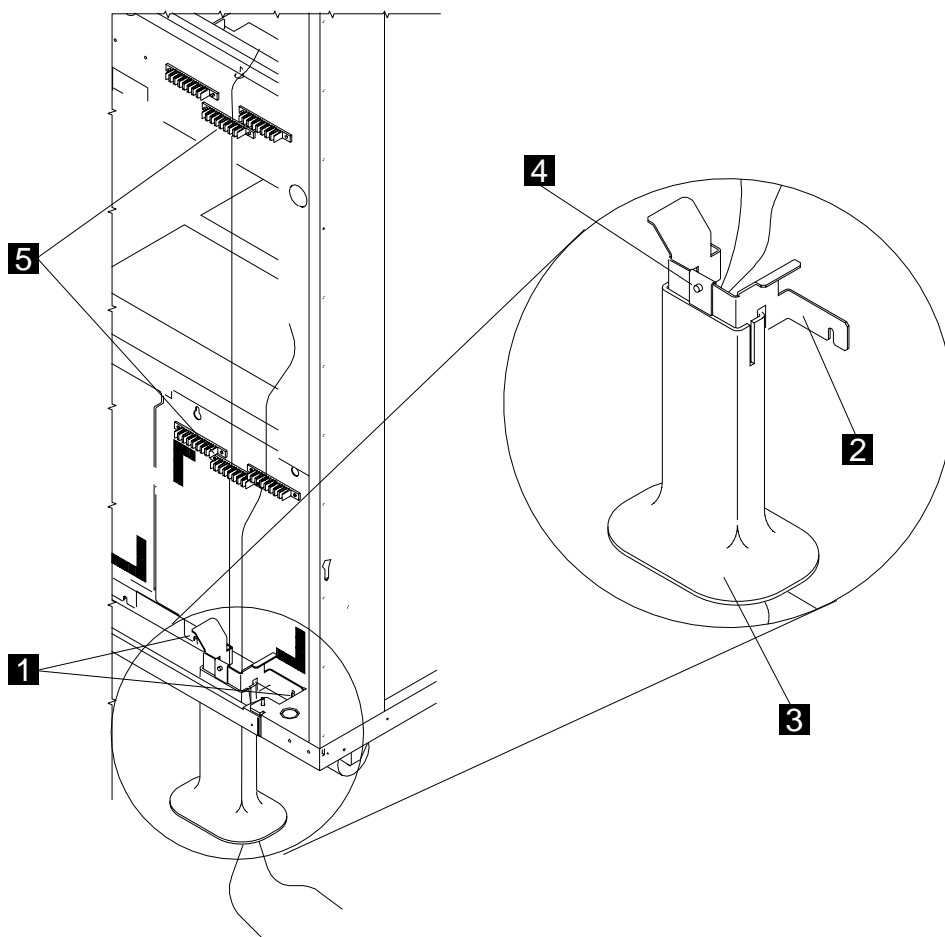

Figure 4-3. Routing the Optical Fibers
- If you have a bracket **2** with PN 76F9407 and the guide **3** with PN 69F2204 (see Figure 4-3) install as follows:
- Step b. ___ **Install** the bracket **2** (PN 76F9407), tighten the 2 screws **1**. See Figure 4-3
Step a. ___ **Route** the cables through the optical fiber guide if installed and insert the cables into the retaining strips **5**. (see Figure 4-3 on page 4-4 or Figure 4-3 on page 4-4)